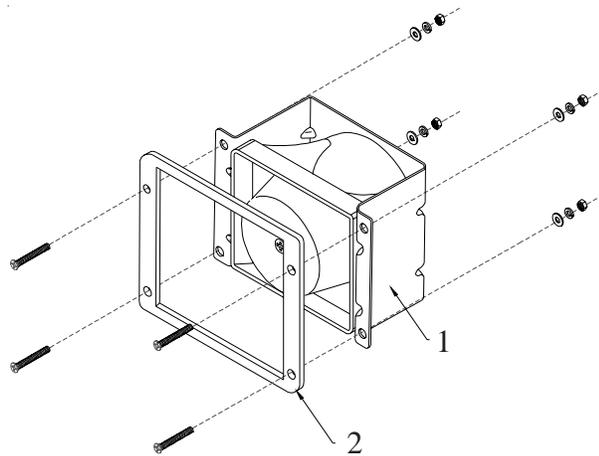

FIGURE 2
- 4) Attach the speaker assemblies and bezel to the vehicle using the fasteners shown in Figure 2. Make sure that the siren wires are clear of the mounting bracket to avoid damage during installation. In addition, **DO NOT TIGHTEN** the mounting screws completely until the speaker is parallel and evenly positioned with the holes on the vehicles exterior.
Parts Shown in Fig. 2